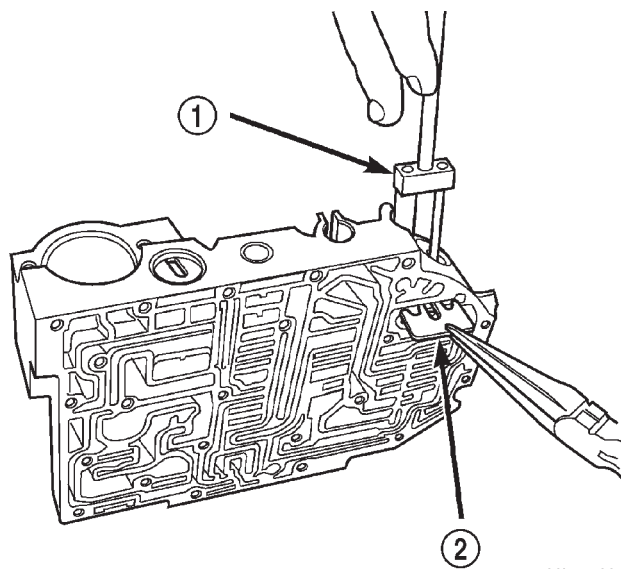

Fig. 132 Remove or Install Dual Retainer Plate
(14) Remove dual retainer plate from valve body. Use special tool 6301 to remove plate (Fig. 132).